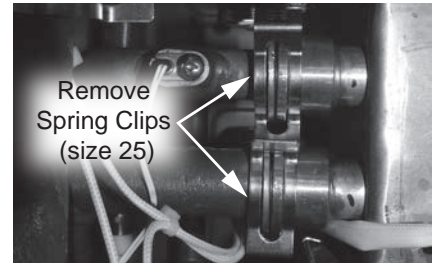

Figure 145 - Disconnecting primary HEX water piping
- 36 Locate the inlet and outlet water connections on the primary HEX. Remove the two spring clips (size 25) securing the water connections and place them aside in a safe place for reinstallation. Disconnect piping. See Figure 145.